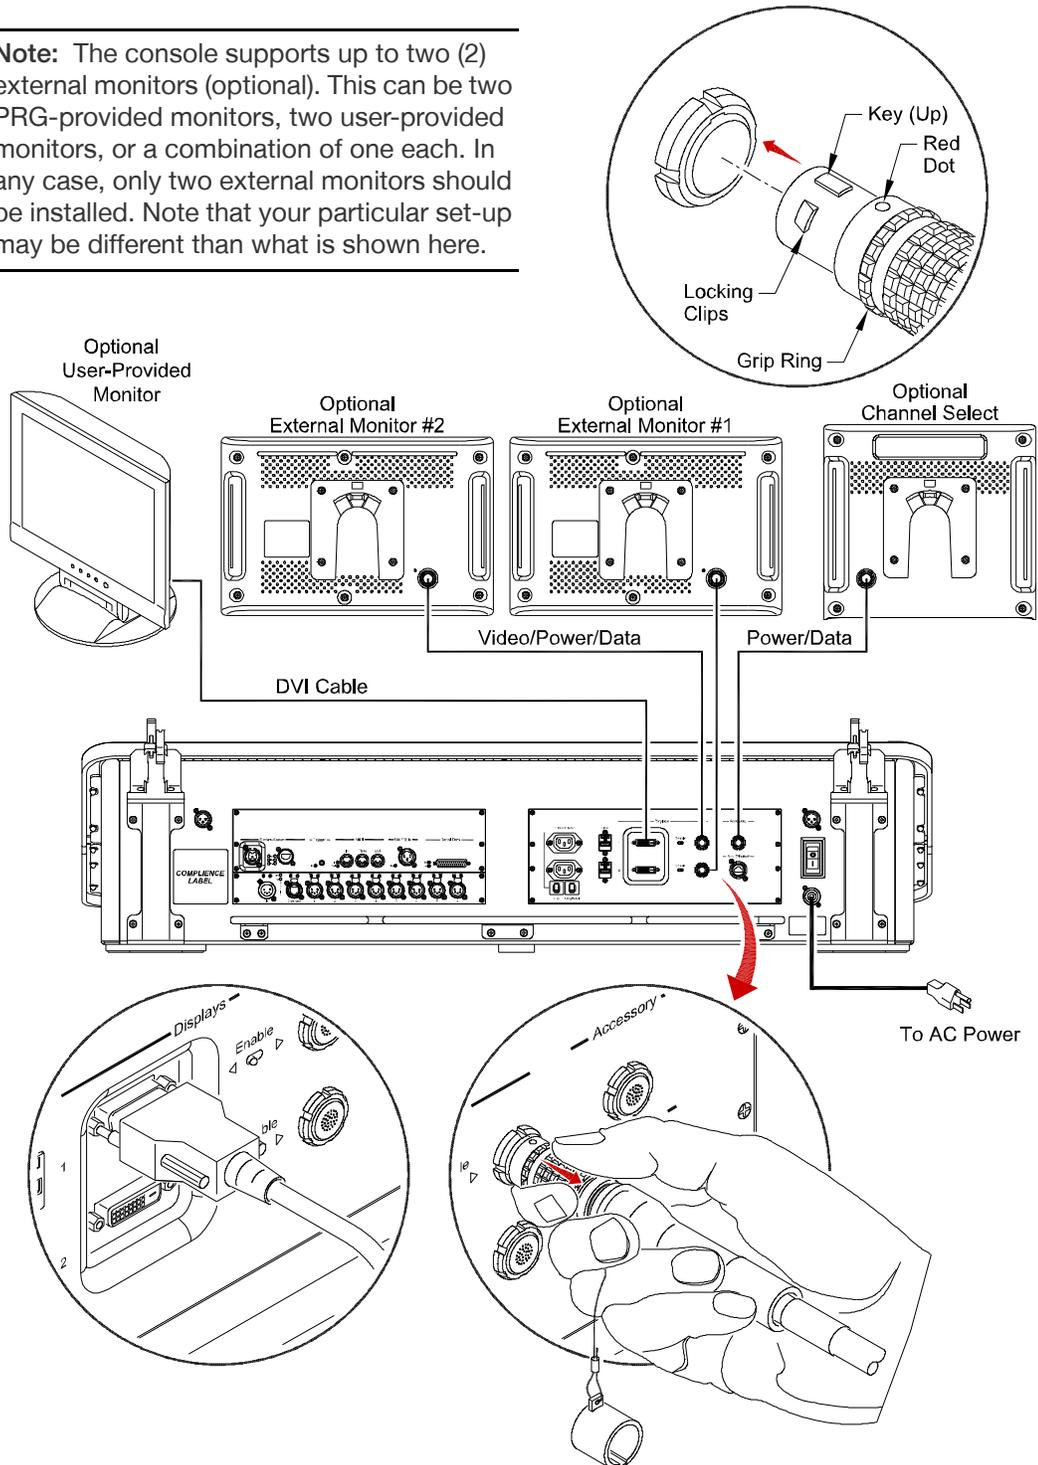

Figure 6: Connecting Components to V676 Console
- Step 5. Connect monitors and/or Channel Select panel to console, as required (Figure 6). Be sure to connect LEMO connectors as shown.
**Note:** The console supports up to two (2) external monitors (optional). This can be two PRG-provided monitors, two user-provided monitors, or a combination of one each. In any case, only two external monitors should be installed. Note that your particular set-up may be different than what is shown here.